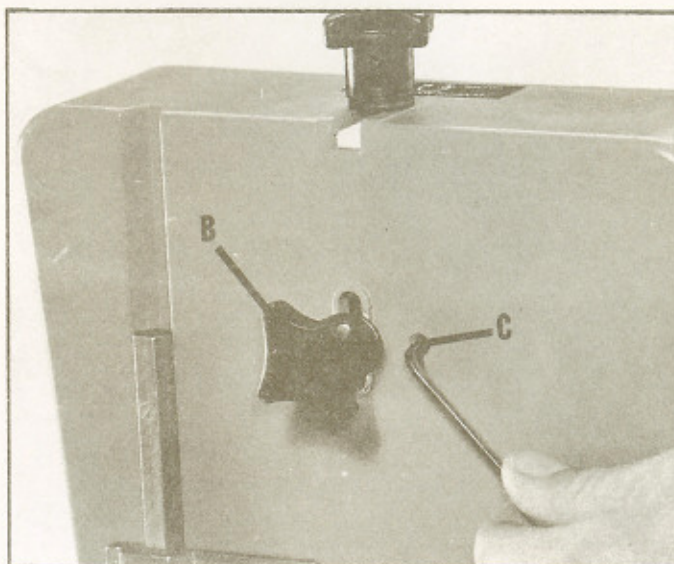

Fig. 11
3. Loosen the blade tension lock knob (B) Fig. 11, about 1/4 of a turn. Using the hex wrench supplied, turn the blade tracking adjusting screw (C) slightly clockwise to move the blade to the rear and counter-clockwise to move the blade to the front.
4. Tighten blade tension lock knob (B) Fig. 11.